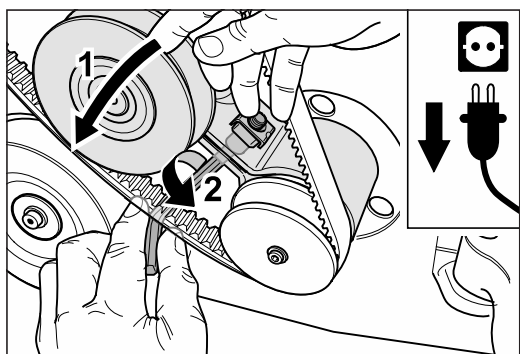

Fig. 72 By turning the tensioner, tighten the smaller V-belt (1) and carefully tighten the clamping screw (2).
- 11 Turn the belt tensioner counterclockwise to tension the fan V-belt (fig. 72, 1). Keep the belt tensioner in position and tighten the clamping screw at the belt tensioner carefully at the same time (fig. 72, 2).